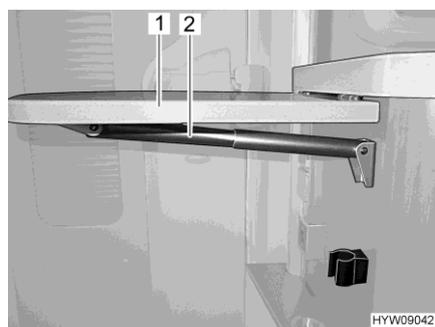

Fig. 83 Folding worktop
- Hold the folding worktop (Fig. 83,1) from below and pull gently to release it from the lock position.
- Swing up the table top until the fixture of the telescopic holder (Fig. 83,2) engages. Let go of the worktop.